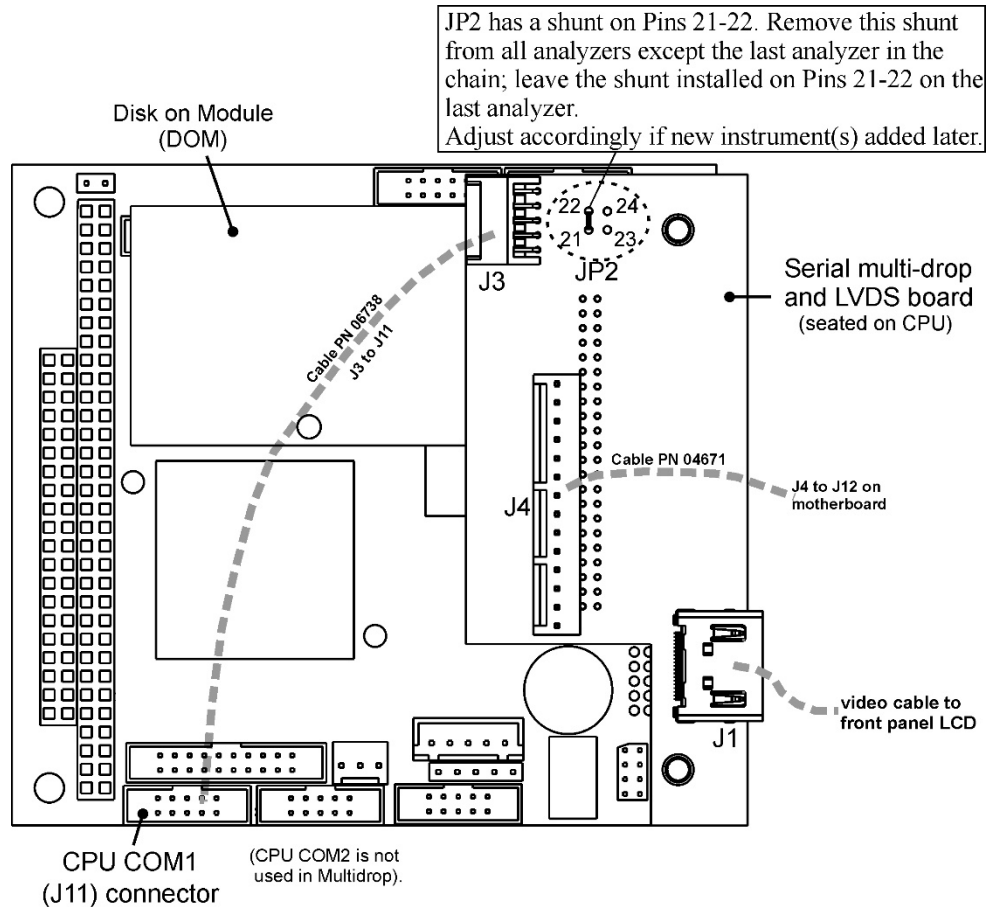

Figure 2-11. Jumper and Cables for Multidrop Mode
In each instrument with the Multidrop option there is a shunt jumpering two pins on the serial Multidrop and LVDS printed circuit assembly (PCA), as shown in Figure 2-11. This shunt must be removed from all instruments except that designated as last in the multidrop chain, which must remain terminated. This requires powering off and opening each instrument and making the following adjustments:
3. Check that the following cable connections are made in *all* instruments (again refer to Figure 2-11):